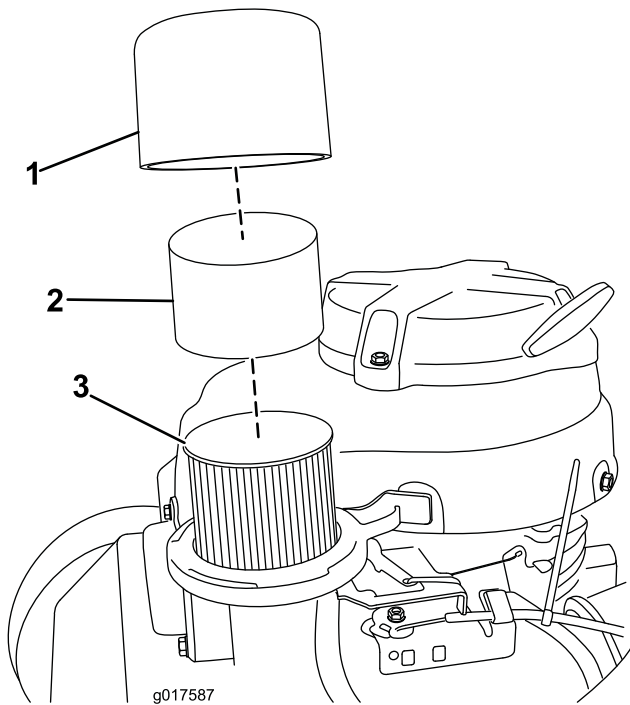

Figure 20
3. Remove the cover and clean it thoroughly (Figure 20).
4. Remove the foam pre-cleaner and wash it with a mild detergent and water, then blot it dry (Figure 20).
5. Remove and inspect the paper air filter (Figure 20); discard it if it is excessively dirty.